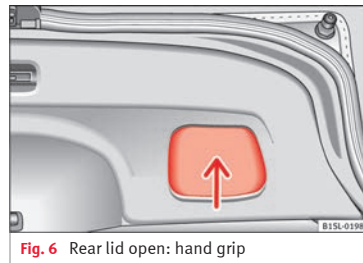

Fig. 6 Rear lid open: hand grip
- Grab the handgrip inside the rear lid **»»** **Fig. 6** (arrow).